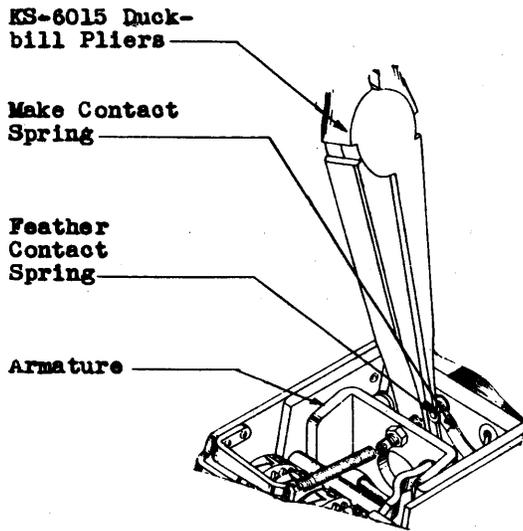

Fig. 15 – Method of Reducing Contact Separation
- (3) If the register is equipped with make contacts and the contact separation is too large, grasp the feather contact spring and spring stop with the duckbill pliers as close as possible to the point where the spring is fastened to the spoolhead as shown in Fig. 15. Compress the pliers.
- (4) If the feather contact spring does not clear the spring stop and the contact separation is satisfactory, pry the stop slightly